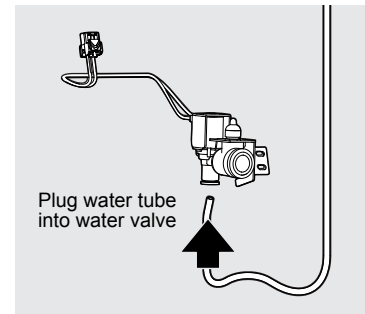

Figure 16
13. Place the green water tube to the ice maker into the bottom outlet of the water valve. The tube must be pushed into the valve up to the black line marked on the tube. Check to make sure the tube is installed correctly. See Figure 16.